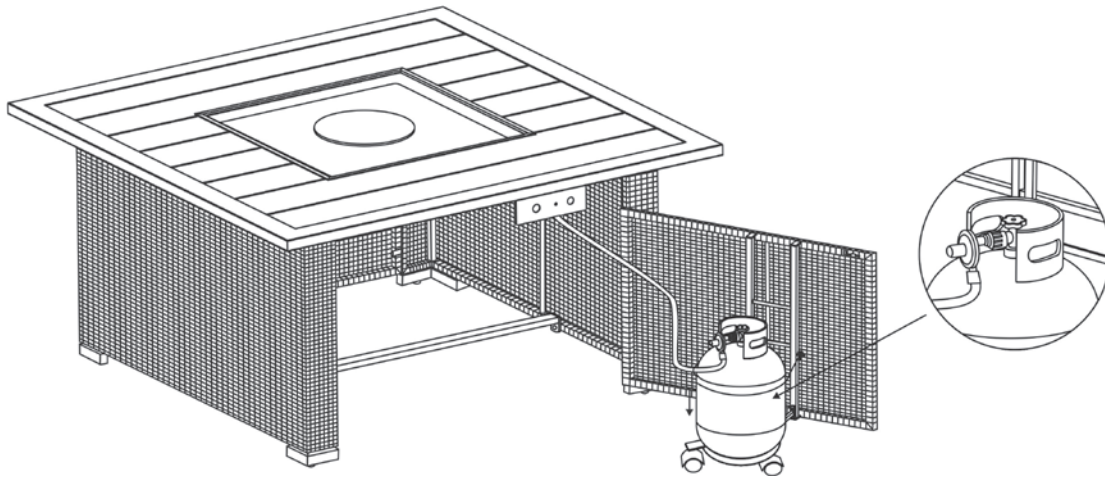

Figure 9
8. Attach the metal ring ( as shown in Figure 8) pre-fitted with gas hose which is connected to the table top , into the hole of the door panel, then use hex bolt driver to screw 1/4"x5mm nut , the gas tank has fixed as shown in Figure 8a. Connect the regulator as shown in Figure.9 Screw the black handle clock-wise to tighten. Turn the handle counter clock-wise to remove. The hose must point down. Check that the valve is turned all the way clockwise to the "OFF" position.